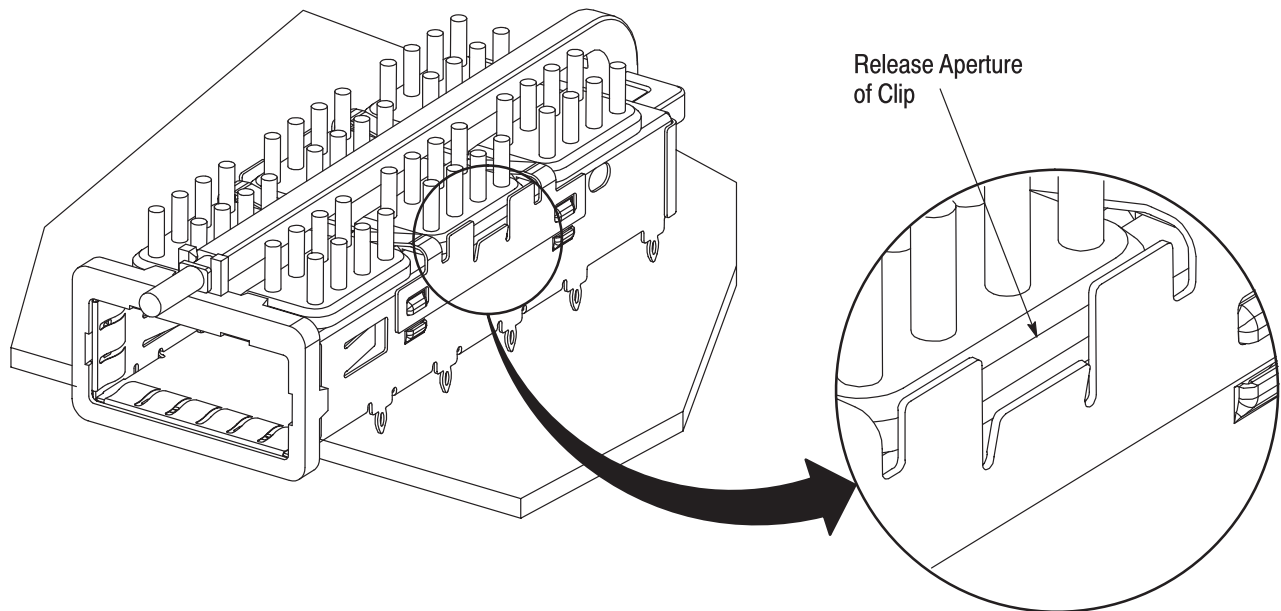

Figure 9
1. Insert the tip of a tool (such as a small screwdriver) behind either release aperture of the clip, and rotate the tool until the corresponding locking windows are released from the attachment latches of the cage assembly. Repeat this step for the remaining release aperture. Refer to Figure 9.